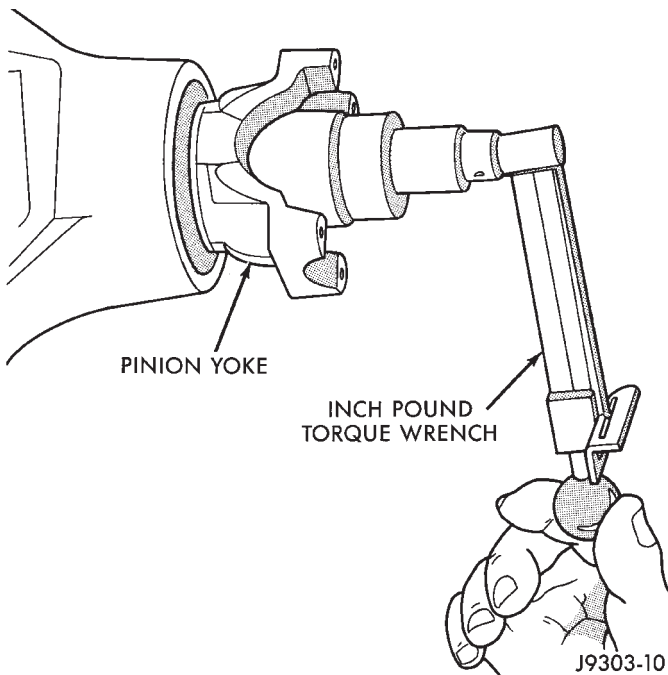

Fig. 9 Check Pinion Rotation Torque
(10) Rotate the pinion shaft using a (in. lbs.) torque wrench. Rotating resistance torque should be equal to the reading recorded during removal, plus an additional 0.56 N·m (5 in. lbs.) (Fig. 9).